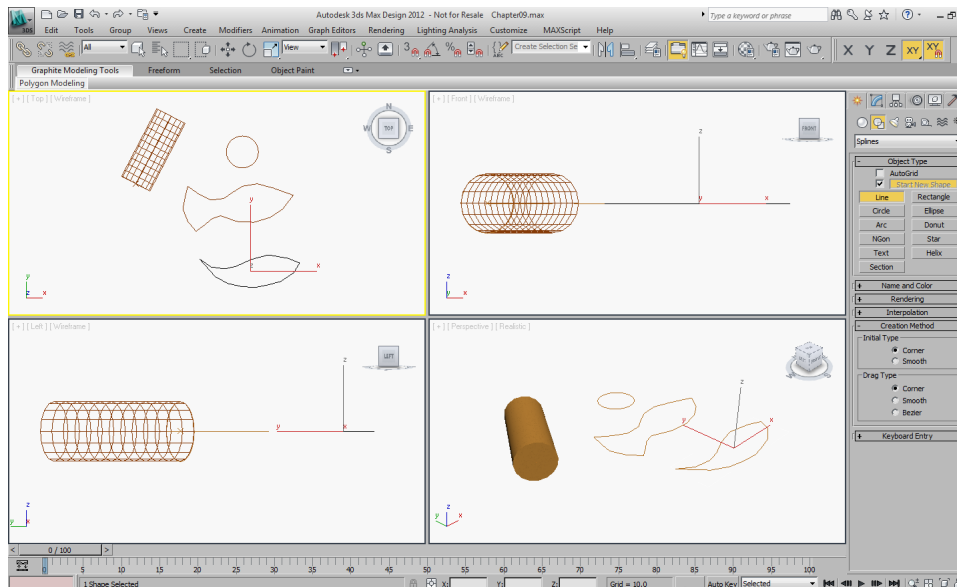

Figure 9-9 Two closed shapes are created in the Top viewport.
1. Pick the **Create** tab in the **Command Panel**. Pick the **Shapes** button and then the **Line** button. In the Top viewport, use the **Line** tool to draw a closed shape that represents the way you want the side view of the loft object to appear. Make the shape approximately of the same length as the loft object. Name the line as Fit Shape (Side). Draw another closed shape that represents the way you want the loft object to appear when viewed from the top. Name this line as Fit Shape (Top). Pick the **Zoom Extents All** button, **Figure 9-9**.